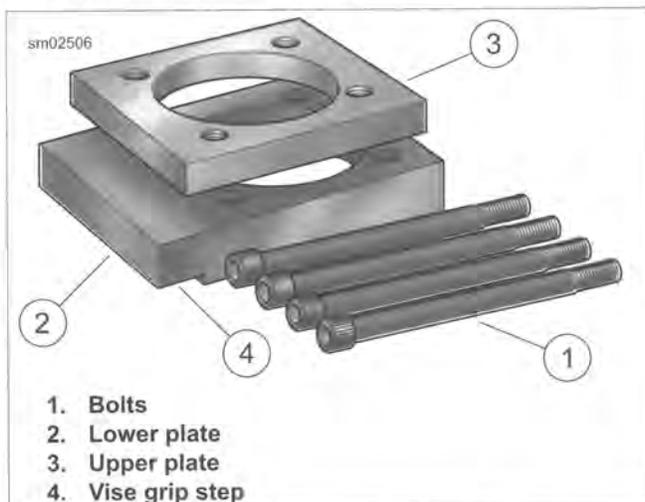

Figure 3-54. Cylinder Torque Plates
2. See Figure 3-54. Check the machined surfaces for flatness using a feeler gauge and CYLINDER TORQUE PLATES (Part No. HD-42324-A):
- a. Lay gasket side of the upper torque plate (3) flat against the head gasket surface of the cylinder.
- e. Lay the seal side of the lower torque plate (2) flat against the O-ring seal surface and check flatness using a feeler gauge.